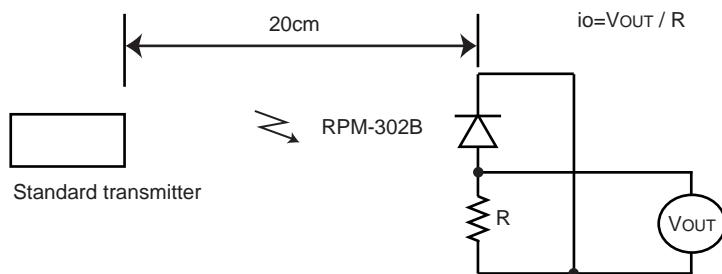

Fig.2 Measurement of standard transmitter proofreading
When standard transmitter output the signal at Fig.1 standard photodiode output become  $io=5\mu A$  under the measurement condition Fig.2.
(1) All characteristics of the receiver in this specification are specified by supplying burst wave form (Fig.1) with ROHM standard transmitter (Fig.2).